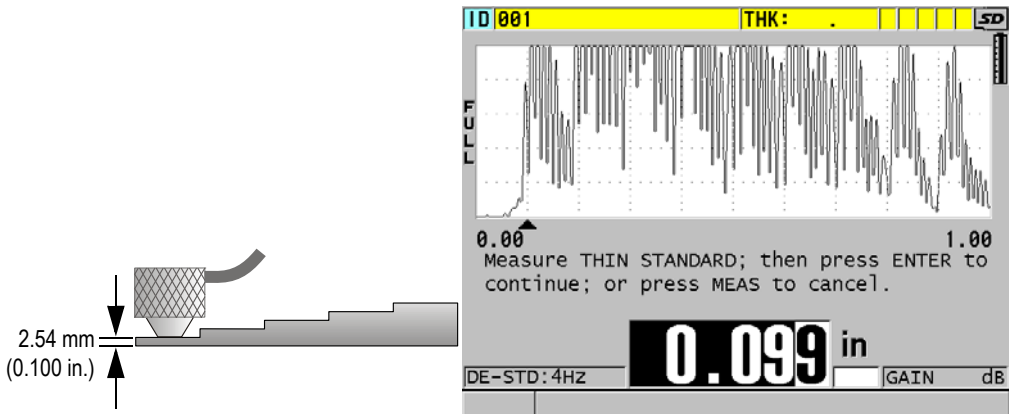

Figure 5-5 Performing the zero calibration on a 5-step test block
2. To perform the zero calibration (see Figure 5-5 on page 69):